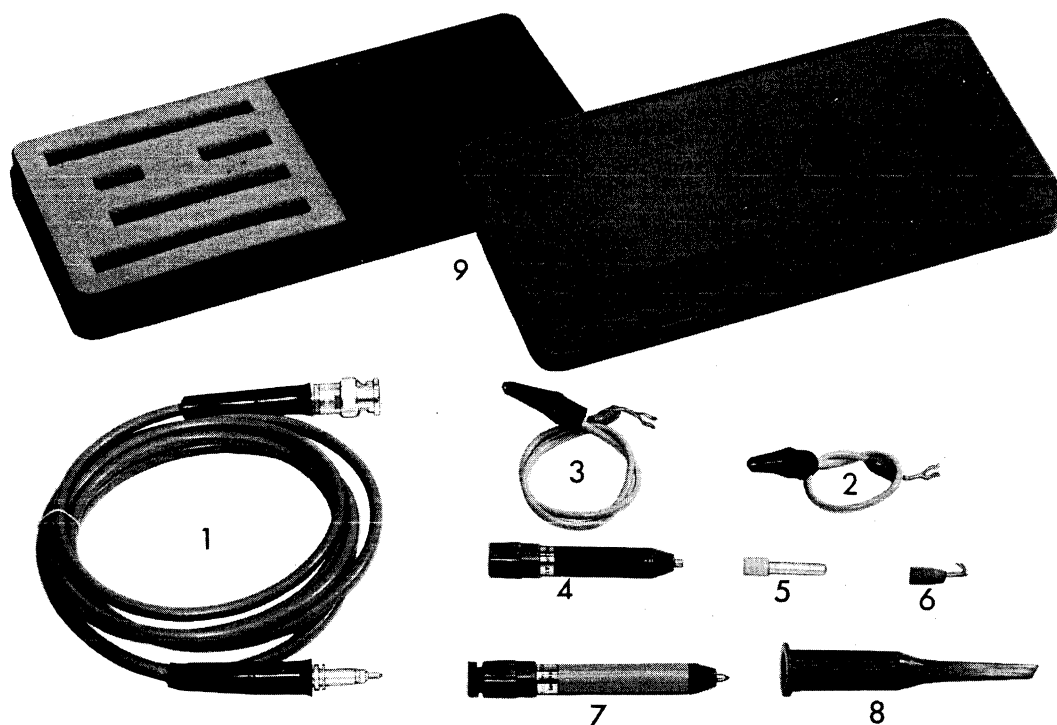

Fig. 3.24. Attenuator probe set PM 9326 (PM 9327)
3.5.3. ATTENUATOR PROBE SETS PM 9326 and PM 9327 (Fig. 3.24.)
1 probe cable	Fig. 3.24. item 1
1 earth lead 15 cm	Fig. 3.24. item 2
1 earth lead 30 cm	Fig. 3.24. item 3
1 measuring probe 1:1 (black)	Fig. 3.24. item 4
1 test pin	Fig. 3.24. item 5
1 test hook	Fig. 3.24. item 6
1 attenuator probe 1:10 (grey)	Fig. 3.24. item 7
1 test clip	Fig. 3.24. item 8
1 box	Fig. 3.24. item 9